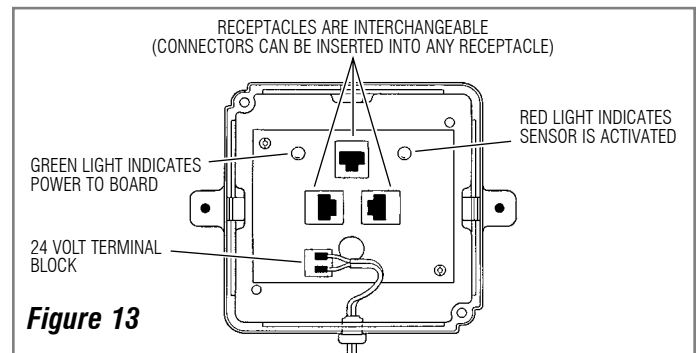

Figure 13
Connect Power Cable to Terminal Block on Connector Board. Refer to Figure 13 for location of 24 Volt Terminal Block on Connector Board.
Note: The Control Module is equipped with two (2) LED indicators. When the Board is supplied with power from the Transformer, the green LED will illuminate. When the Sensor is activated, the red LED will illuminate. Refer to Figure 13 for location of LED indicators.